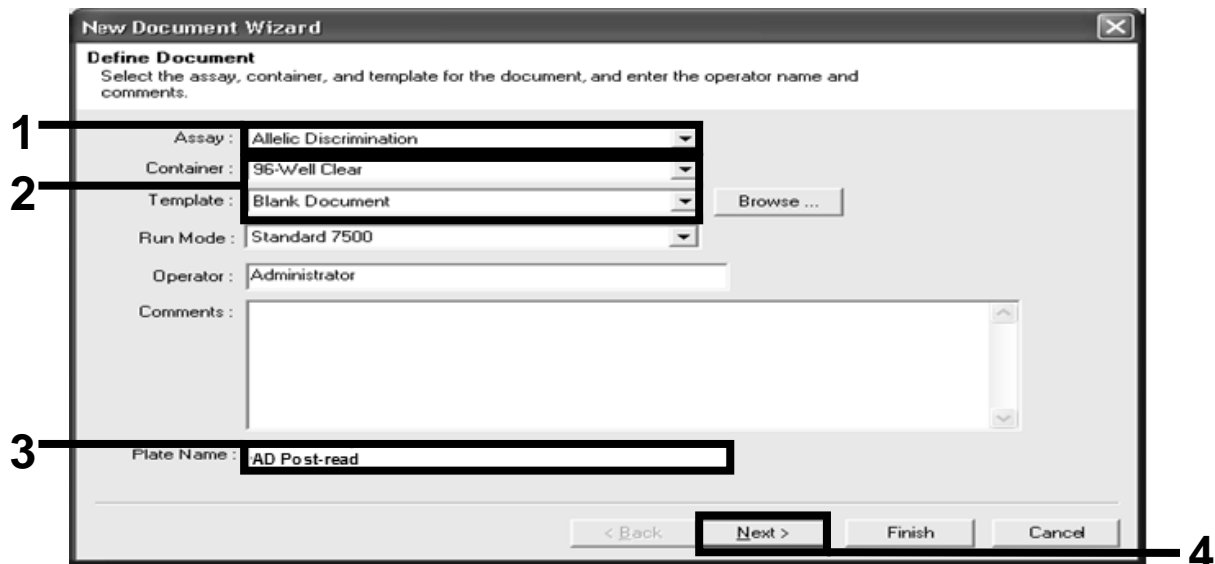

Figure 13. Pre-settings for creating a new post-read run (New Document Wizard).
12. **In the "New Document Wizard" dialog box, click the "Assay" drop-down list, and select "Allelic Discrimination" (Figure 13).**
13. **Accept the default settings for the "Container" and "Template" fields ("96-Well Clear" and "Blank Document", Figure 13). In the "Plate Name" field, type *AD Post-read* (Figure 13), and then click "Next>" to access the "Select Markers" dialog box.**